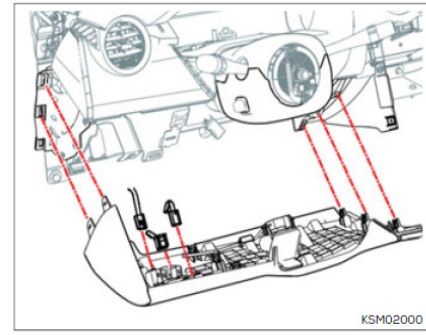

fig. 1b
1. The cabin air temp sensor is located behind the LH-knee bolster assembly (fig 1a). See Service Manual-“Sensor-Cabin Temp” for access instruction (fig. 1b).